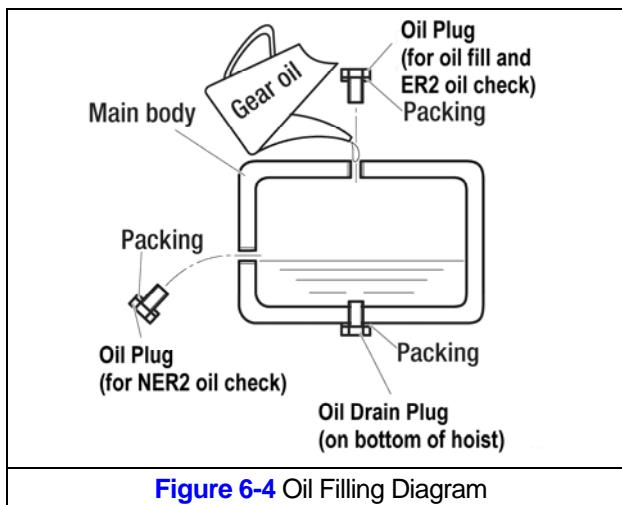

Figure 6-4 Oil Filling Diagram
- To drain the current oil from the hoist remove “Oil Plug” on top of the hoist and the “Oil Drain plug” on the bottom of the hoist. Allow the old oil to drain completely. Refer to Figure 6-4 for oil plug locations.
- Refill the gear case with the correct quantity and type of new oil or until the oil level is within the range shown in Table 6-6. Refer to Figure 6-4. Note that the NER2 & ER2 models have different oil quantity requirements.